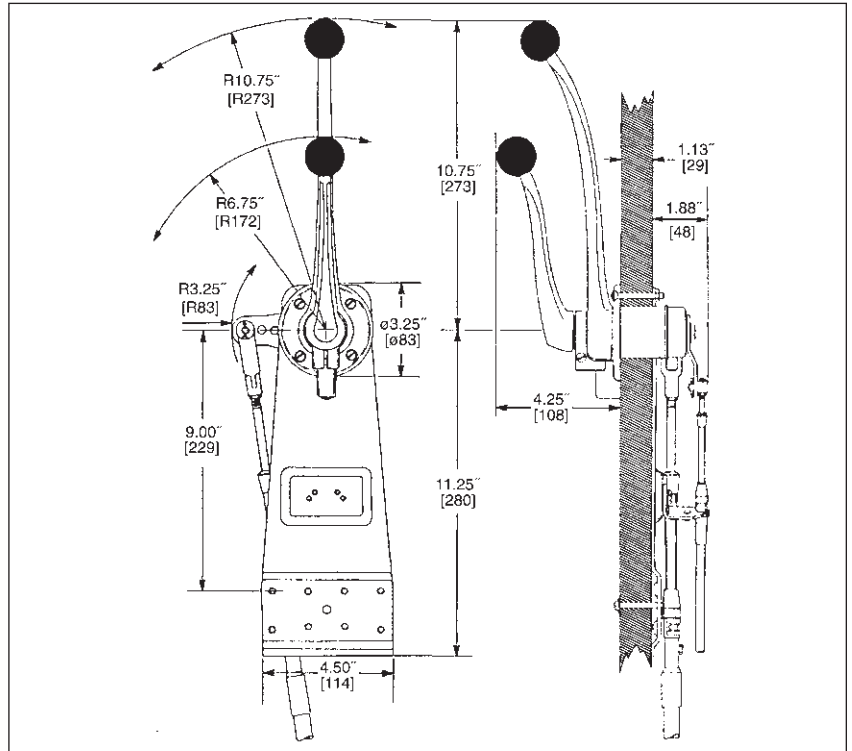

Figure 1.
STEP 1. Adequate clearance must be provided for the Control Head Hand Levers to move through their full ranges (approximately 90 degrees). See Figure 1.